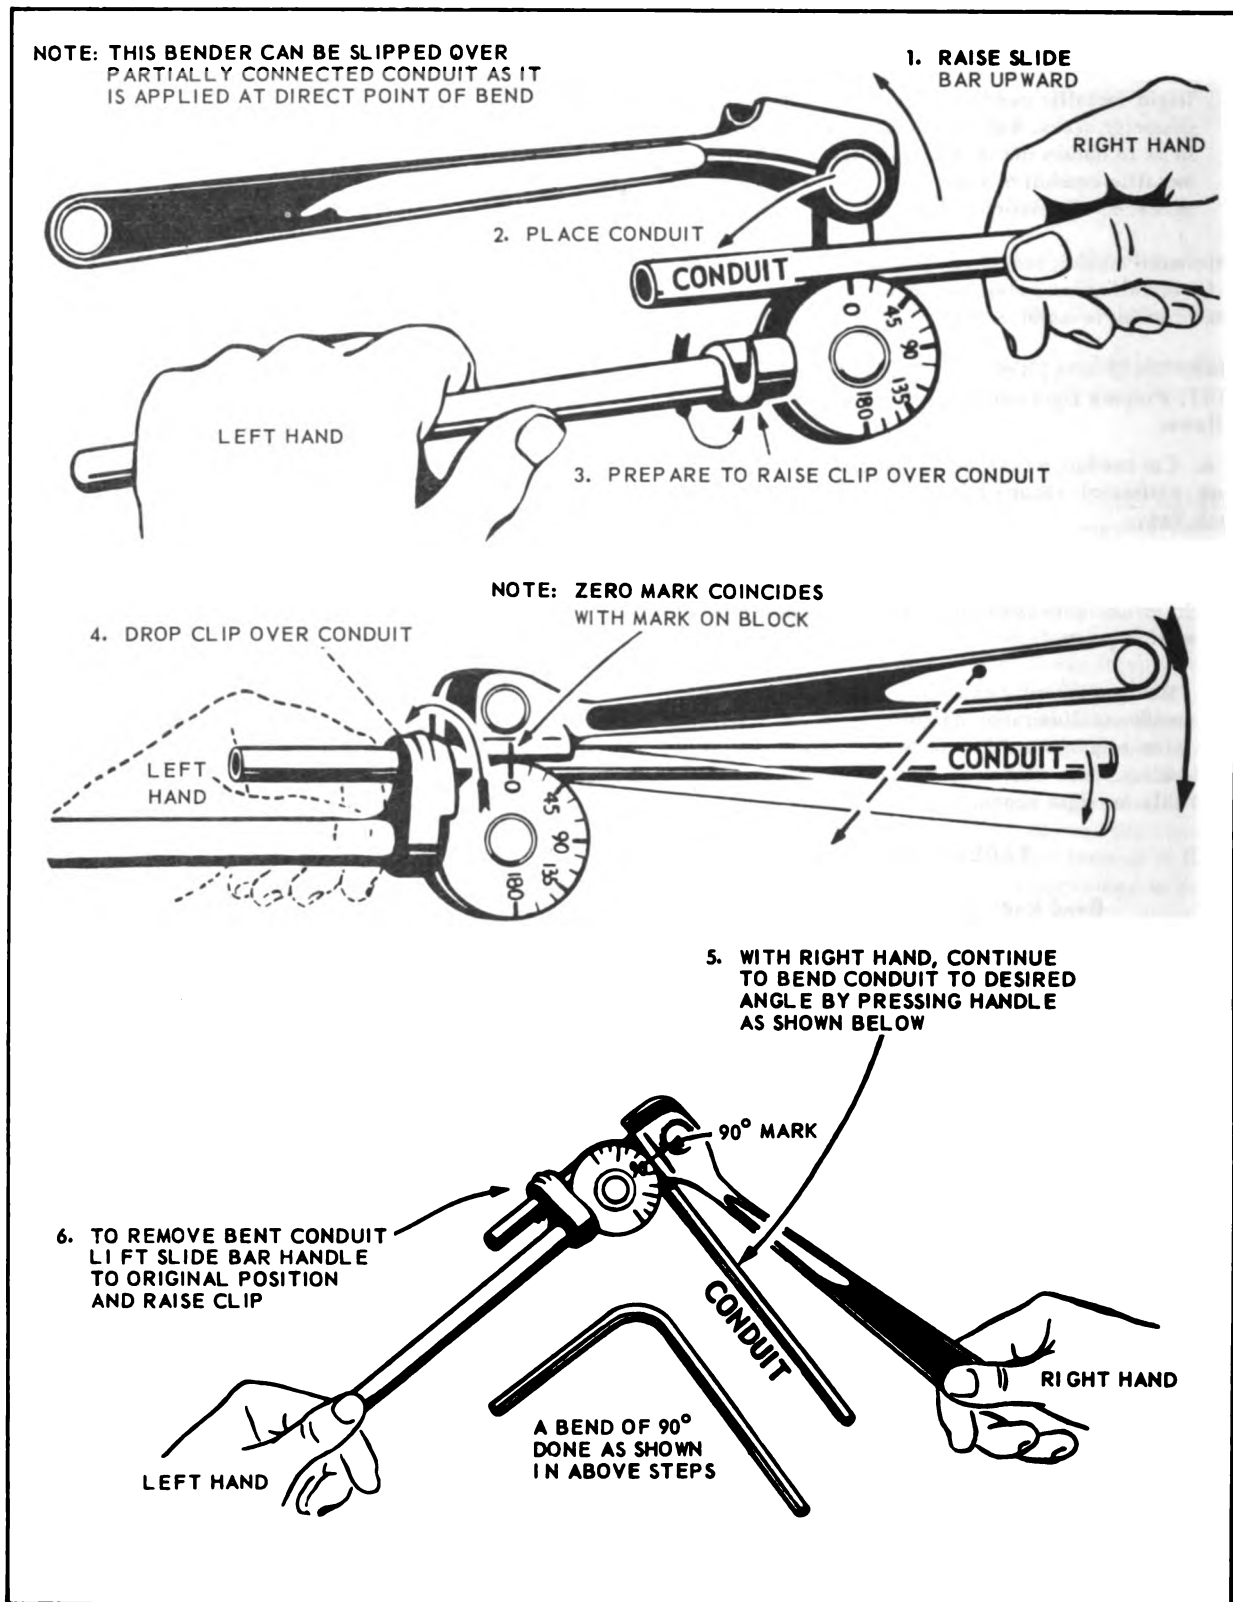

Figure 11-2. Bending Rigid Metallic Conduit
b. Make required bends in conduit, using a hand tube bender as illustrated in figure 11-2. Each nominal tube size requires a different bender to get the proper bend radius. See table 11-1 for minimum bend radii allowable for rigid conduit.